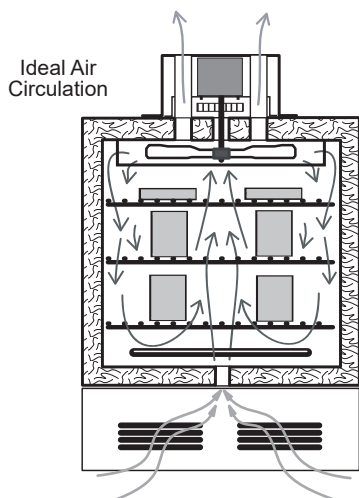

FIG. 3
- ▶ Leave a space between articles on the shelf as shown in (FIG. 3).